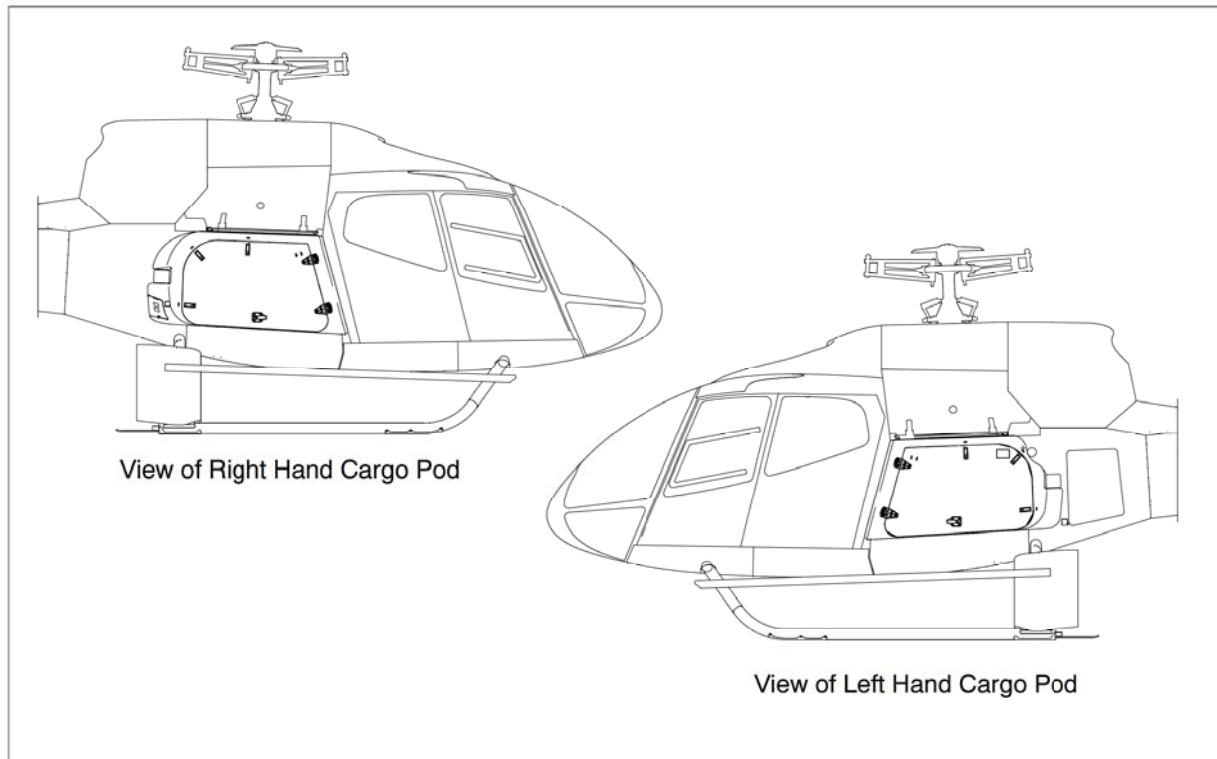

Figure 1 General Layout
- A. The subject Cargo Pods Installation comprises two pods which provide an increase in cargo bay capacity. The forward opening door allows for easy cargo handling. The Cargo Pods also have a non-slip surface on the top and can support the weight of a person. Refer to Figure 1 for General Layout.